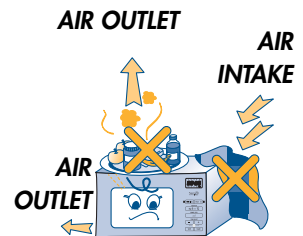

fig. 2
- 6) Do not block the air intake vents. In particular, never place anything on top of the oven and make sure the air and steam outlet vents (on the top, bottom and rear of the appliance) are ALWAYS FREE (fig. 2).
- 7) Place the turntable support (H) in the centre of the circular housing and rest the turntable (G) on top. The spindle (D) must be inserted into the housing in the centre of the turntable.